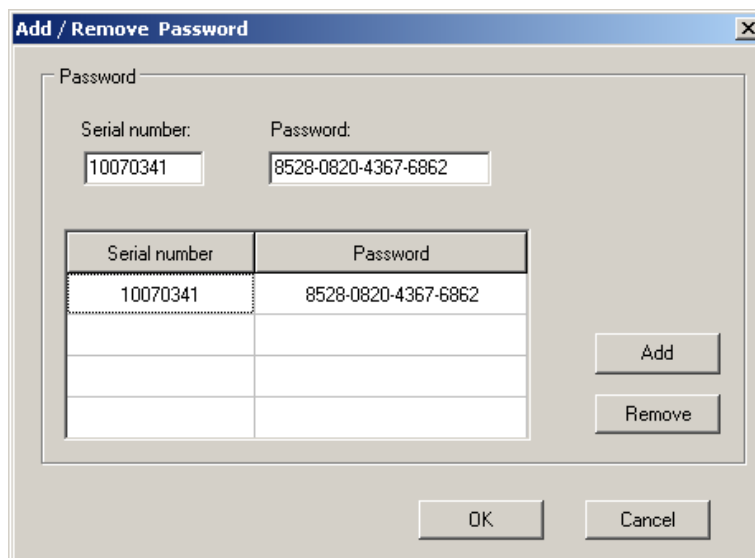

Fig. 36: Insertion of initial password
7. Select the command “**Config → Password...**”, type the serial number of meter and the password (which is indicated on the CD-ROM label) and confirm with “Add” (see Fig. 36)